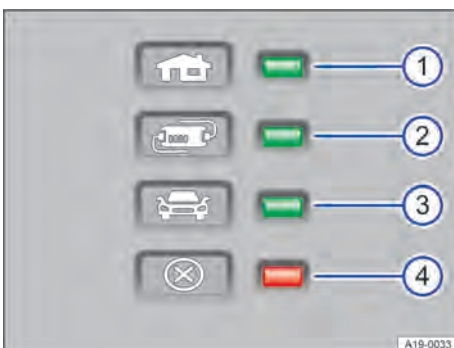

Fig. 168 Warning and indicator lamps on the protective device on the charging cable.
One or more indicator lamps on the safety device light up green → Fig. 168 ①, ② and ③.
If charging is interrupted, the current status indicator goes out and one of the indicator lamps flashes green. The warning lamp flashes red → Fig. 168 ④.
If you continue to charge the vehicle with the reduced charging current, the warning lamp flashes red → Fig. 168 ④ in addition to the status indicator. The charging cable must cool down for some time. The charging current will be increased again automatically.
If the warning lamp → Fig. 168 ④ flashes or lights up red without an indicator lamp → Fig. 168 ①, ② or ③ of the status indicator being lit continuously, there is a fault.